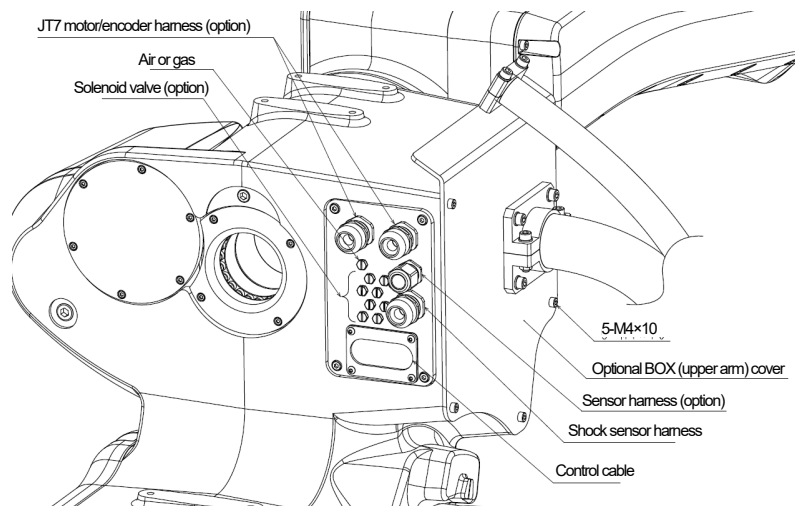

Figure 1.10 Outline of optional BOX (upper arm) (BA013N/L)
1. Referring to Figure 1.10, unscrew five hexagon socket head bolts (M4×10) and open the cover of optional BOX (upper arm) on the upper arm.
2. Referring to Figure 1.11, connect the connectors (XMSA1, XMSA2) with the cable provided inside the optional BOX and the control cable (relay) (option). In addition, attach the one touch coupling (option), gas hose (option), and reducing nipple (option) on the air or gas piping system in Figure 1.10, and connect them with the gas hose of the wire feeder.